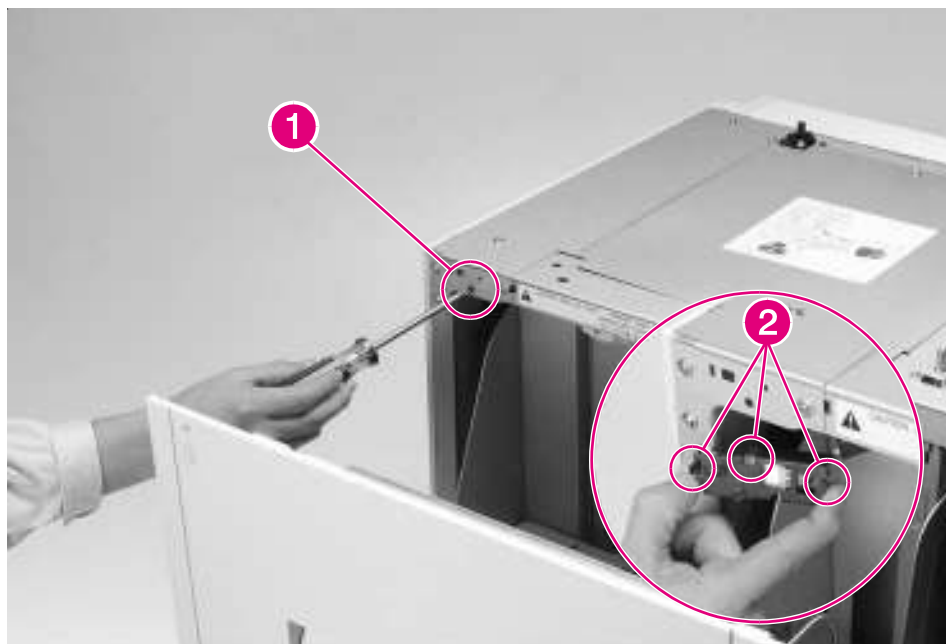

Figure 6-72 2000-sheet Input Tray Front LED PCA
- 2 On the upper-left corner of the front of the unit's chassis, locate and remove the 1 screw that secures the LED PCA Assembly to the chassis (figure 6-72, callout 1).
- 4 To remove the LED PCA from the cable connector, release the 3 plastic retaining tabs that secure the LED PCA to the connector (figure 6-72, callout 2).